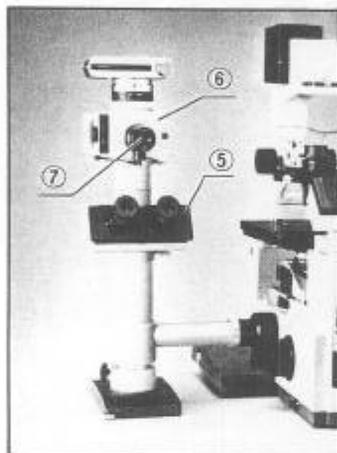

Fig. 42
6) Attach the trinocular tube ⑤. (Fig. 42)
8) Connect the PM-10AD attachment ⑥. (Fig. 42)